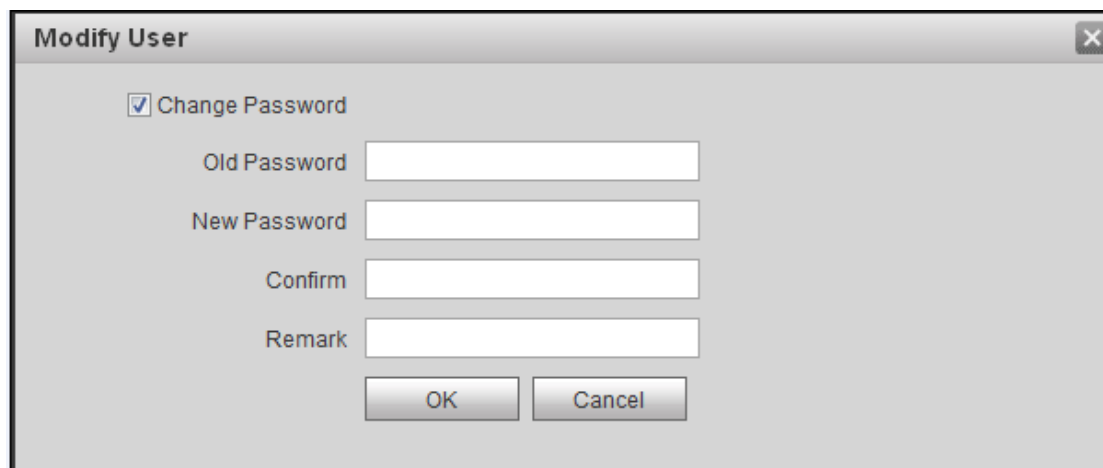

Figure 4- 14
Step 3. Click  to modify user info, check modify password, modify password and note info. See Figure 4- 15.